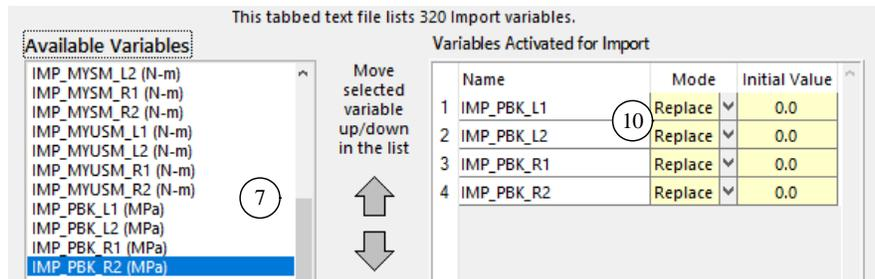

Figure 30. Four variables activated for Import in CarSim and TruckSim examples.
- Select the component type **Brakes** (8). The list of available variables (7) is adjusted to show only variables related to Brakes.
- Right-click on any of the available variables to see a longer name in a pop-up field (9).
- For CarSim and TruckSim, find the Import variable in the **Available Variables** list with the name `IMP_PBK_L1` and double-click on it. The variable will appear in the list **Variables Activated for Import** (10). A drop-down control is shown next to the variable name with options **Replace**, **Add**, and **Multiply** (11). The default option is **Replace**, which is appropriate for this example.
- Add three more variables by double-clicking on their names in the **Available Variables** list: `IMP_PBK_L2`, `IMP_PBK_R1`, and `IMP_PBK_R2`. The list **Variables Activated for Import** (10) should match Figure 30.